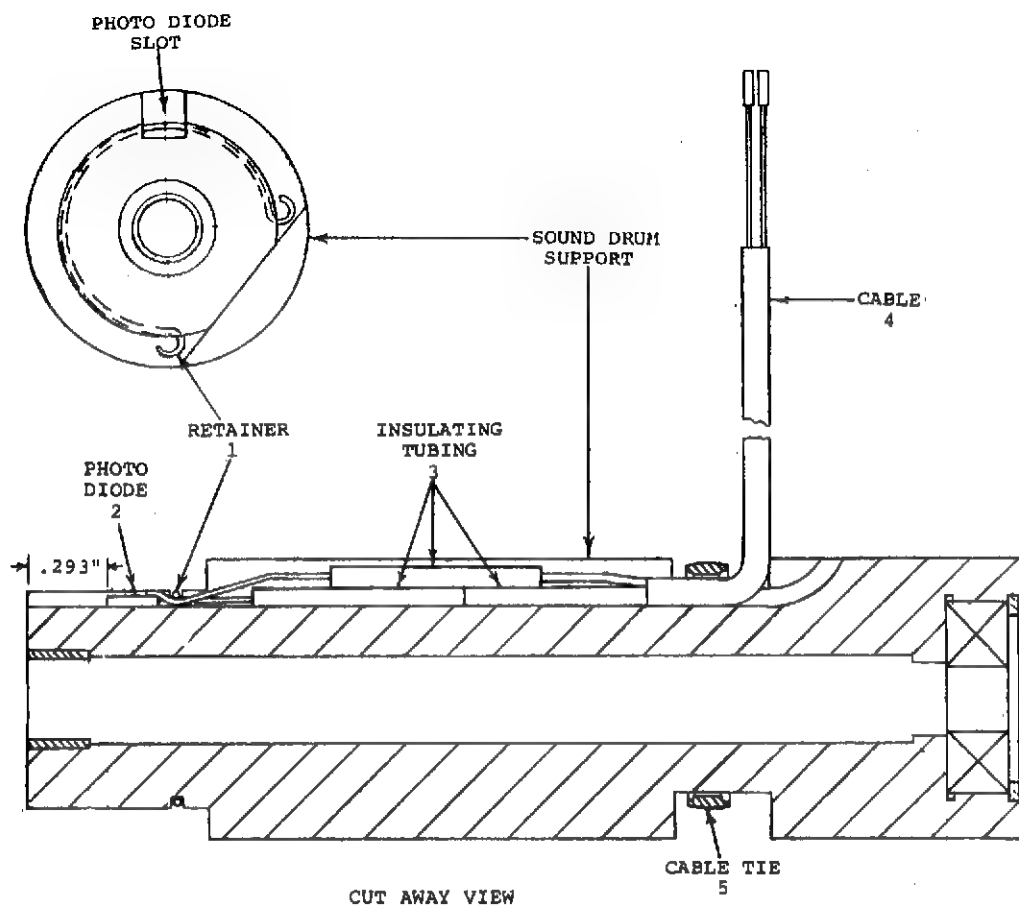

Figure 3-33. REPLACING PHOTO DIODE CHIP IN SOUND DRUM SUPPORT
2. Remove the Retainer (1) and the Photo Diode (2) out of the slot. Clip the leads and discard the Diode. (Figure 3-33)
3. Remove the Insulating Tubing (3) and unsolder the remaining portion of the Diode leads.
5. Position a new Photo Diode into the slot with the shiny, black surface up (red wire) and the end aligned with the mark made in Step 1. Assemble the Retainer (1) to hold the Photo Diode in place, orienting the Retainer as shown in Figure 3-33. Make sure the Photo Diode is perfectly flat in the slot. (The end of the Photo Diode should be .293" --about 9/32"-- from the end of the Sound Drum Support.) **THE PHOTO DIODE IS VERY FRAGILE. BE VERY CAREFUL NOT TO BREAK IT!**